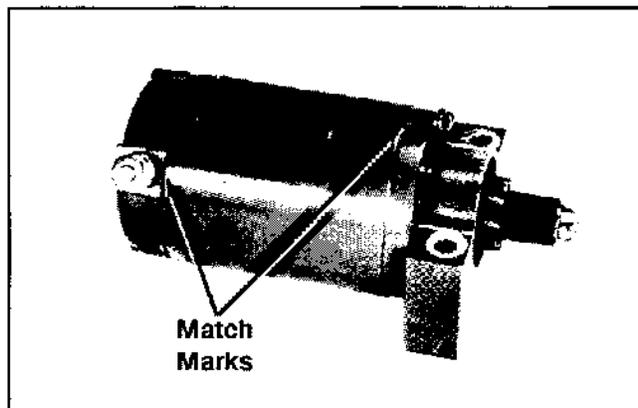

Figure 8-10. Starter Assembly Match Marks.
2. Scribe a small line on the drive end cap, opposite the line on the starter frame. These lines will serve as match marks when reassembling the starter. See Figure 8-10.
3. Install the drive end cap over the drive shaft. Make sure the match marks on the end cap and starter frame are aligned. See Figure 8-10.